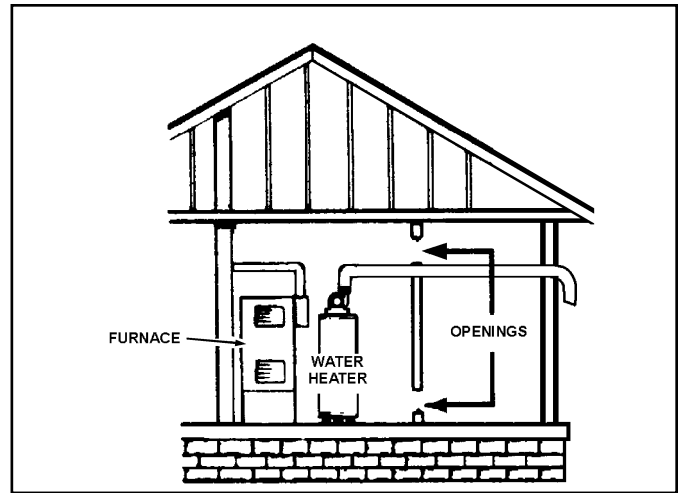

Figure 17
A. ALL AIR FROM INSIDE BUILDINGS: (See Figure 17)